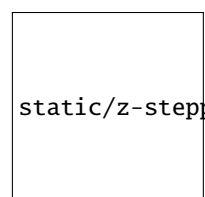

Fig. 2: 2.Z-stepper motor
2. Attach the z-axis slimmer stepper motor to the back of the z-axis assembly (Fig. 2. below).